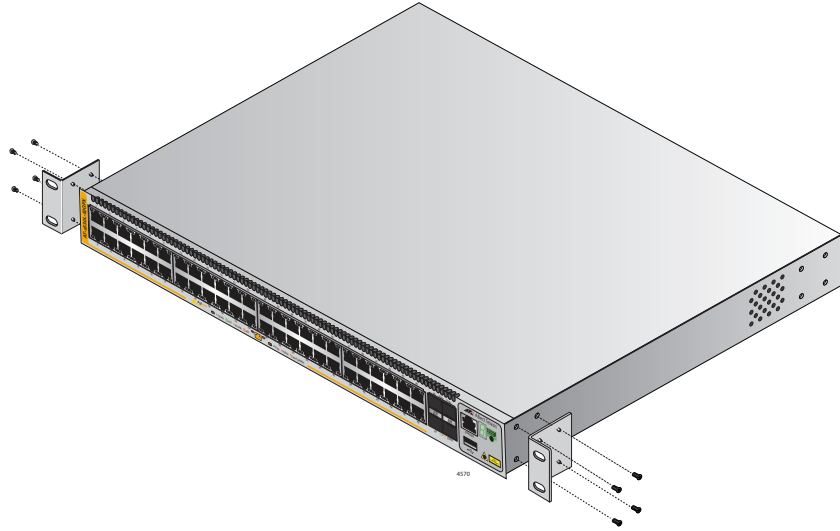

Figure 66. Example of Attaching the Brackets to the Switch
2. Attach the two brackets to the sides of the switch in the selected position, using the eight M4x6mm screws supplied with the unit. The illustration in Figure 66 shows the installation of the brackets such that the front panel of the switch is even with the front of the equipment rack.